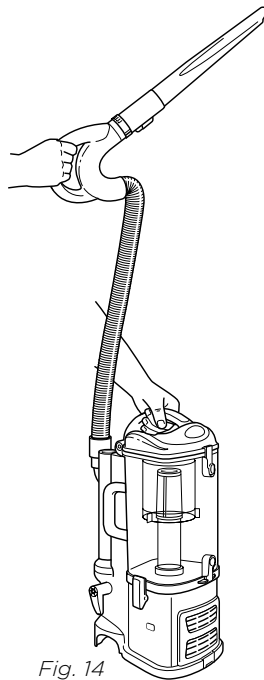

Fig. 14
- 4 Press the On/Off switch to the "I" position to clean above-floor areas. Hold the handle in one hand while you carry the portable canister with the other hand. (Fig. 14)